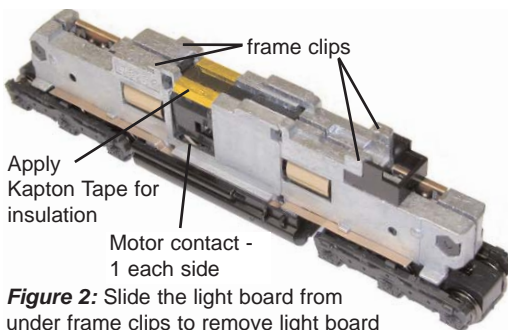

Figure 2: Slide the light board from under frame clips to remove light board
2. Carefully remove the factory light board by sliding it toward the back of the locomotive and out from under the frame clips. Then gently lift the board out of the frame. Be careful not to bend the motor contacts. Apply a small piece of Kapton tape to frame above motor. Figure 2.